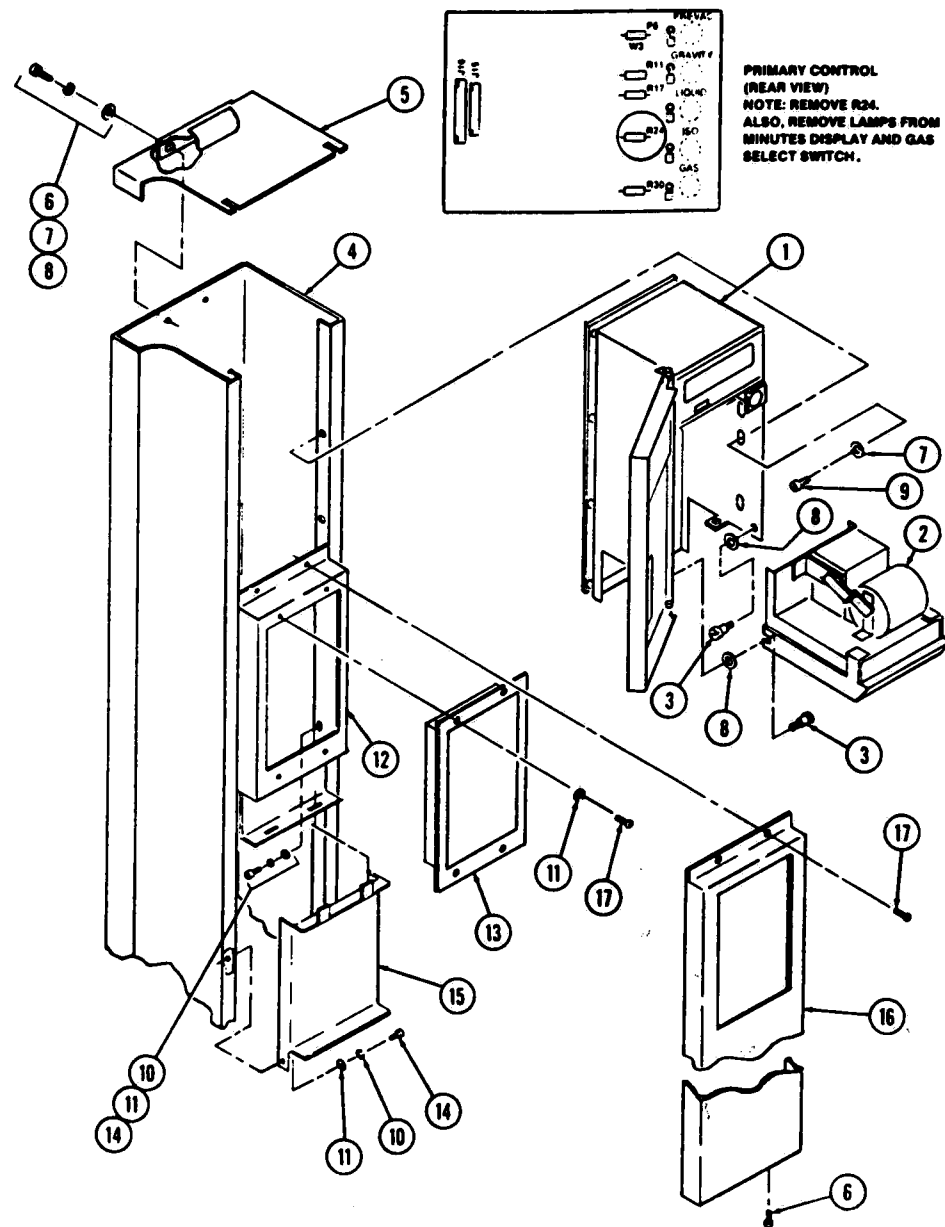

Figure 9-4. CONTROL COLUMN, Eagle 2300 (Part 1 of 3).
- Figure 9-4. CONTROL COLUMN, Eagle 2300 (Part 1 of 3).